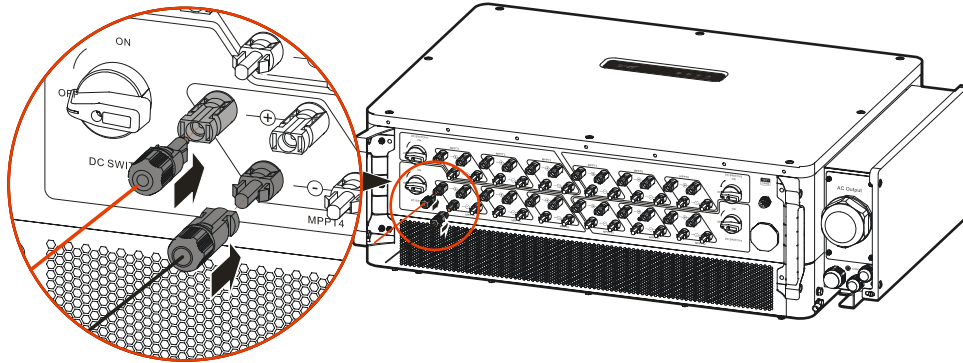

Figure3-43 Connect PV connectors
Step 3 Insert the positive and negative connectors into the MPPT "+" and "-" terminals on the bottom of the inverter respectively (as shown in Figure3-43). When you hear a click, it means the connection is completed.